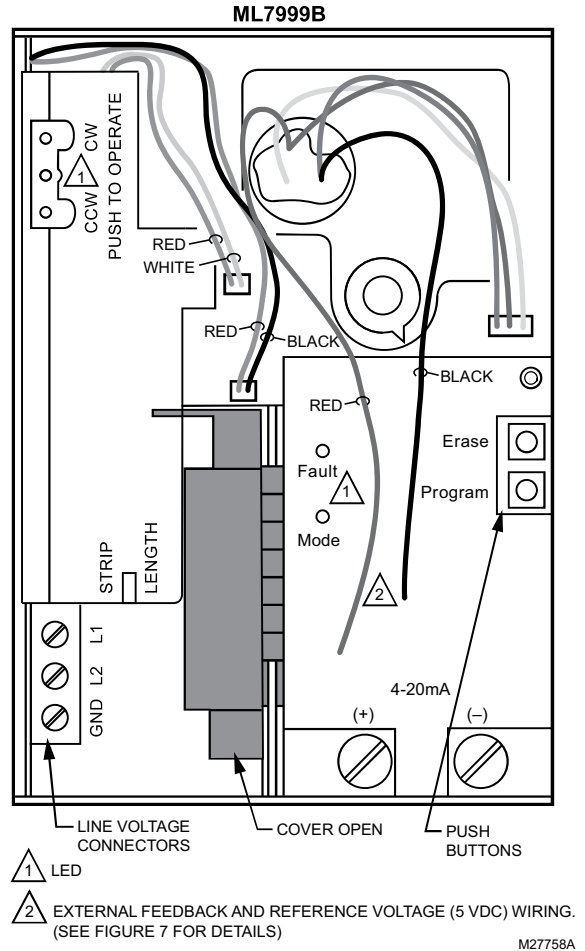

Fig. 6. Interior layout of ML7999B.
3. Wire the low-voltage circuit to the 4-20 mA controller. See Fig. 6 for typical wiring connections.
5. Wire the line-voltage circuit. See Fig. 6 for typical wiring connections.
6. See Fig. 6 and 7 for wiring the 0-5 Vdc Feedback Signal and reference voltage to an external controller. Keep this wiring in the same conduit as the 4-20mA control signal wiring.